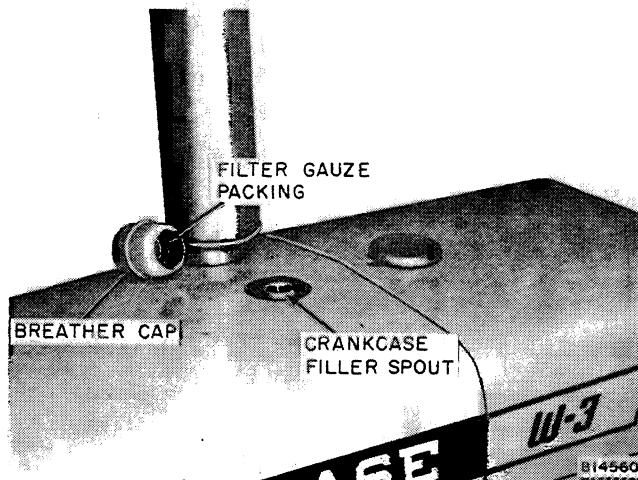

Figure 6 - Crankcase Breather
2. Fill crankcase with correct oil, see chart and Figure 6. Always use service MG or MS in gasoline engines; service DS (or Series 3) in Diesel engines. Fill to "FULL" mark on dipstick.
This filler cap serves as a breather for the crankcase. A fine wire mesh inside the cap prevents entry of dirt into the engine, see Figure 6. Wash the filler cap in solvent every week. Dip in oil, allow to drain, and replace on the filler spout.